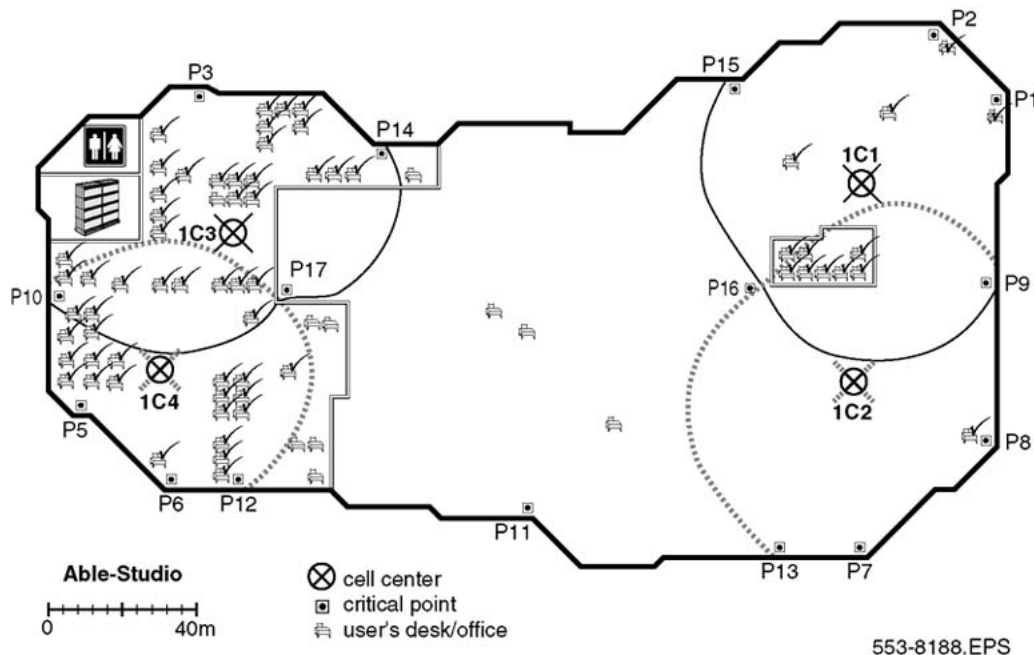

Figure 25: Identify new critical points (P11, P12, P13, P14, P15, P16, P17)
1. Mark critical points adjacent to a critical point and on the opposite side of the cell boundary area. (critical point = P11 in Figure 25: Identify new critical points \(P11, P12, P13, P14, P15, P16, P17\) on page 55, where cell boundary area = IC2),
2. Mark critical points inside of where the cell boundary meets the outside wall (P12, P13, P14, and P15 in Figure 25: Identify new critical points \(P11, P12, P13, P14, P15, P16, P17\) on page 55, and
3. Mark critical points where cell boundaries meet (P16 and P17 in Figure 25: Identify new critical points \(P11, P12, P13, P14, P15, P16, P17\) on page 55.